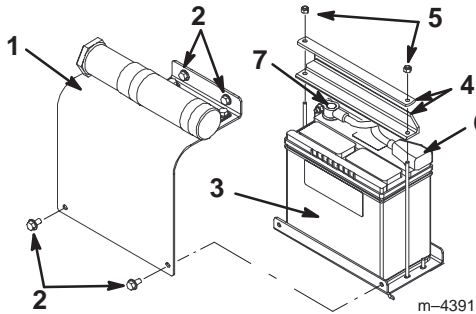

Figure 3
1. Remove the four bolts securing the battery cover and remove the cover (Fig. 3).
2. Remove the nuts and bars securing the battery (Fig. 3).
10. Install the battery onto the platform (Fig. 3).
11. Secure the battery in the chassis with the bars and nuts removed previously (Fig. 3).
12. Connect the positive (red) cable to the positive (+) battery post (Fig. 3). Slide the rubber cover over the battery post.
13. Connect the negative (black) cable to the negative (-) battery post (Fig. 3).
14. Install the battery cover (Fig. 3).